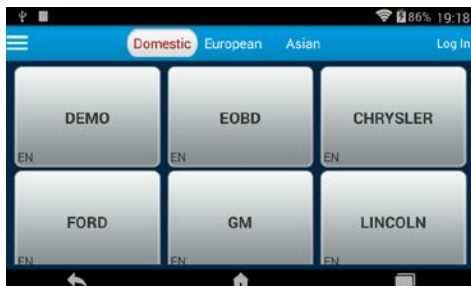

Fig. 5-3
1. Tap the ARTIDIAG100 icon on the HOME screen to enter the main function menu of diagnosis software, as indicated in Fig. 5-3.